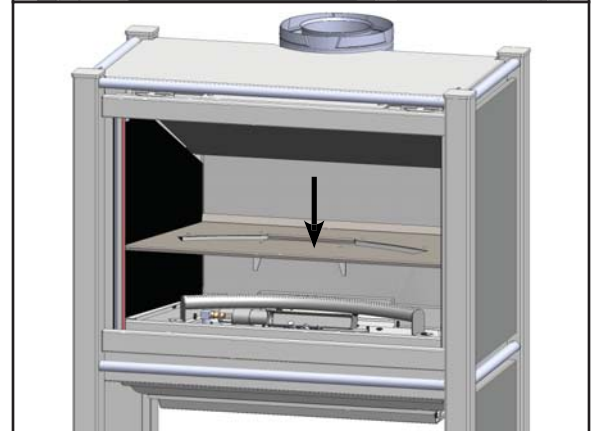

Fig.13
9. Carefully place the floor plate assembly back into position (Fig.13).